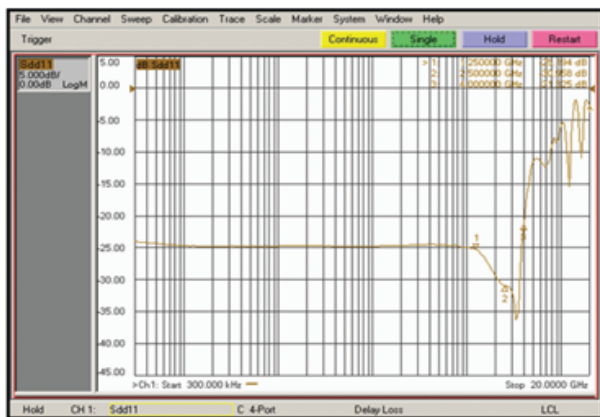

Fig 4. Crosstalk for PI2USB304
6. **Crosstalk** is defined as magnitude of signal that is coupled between the circuits. Crosstalk is usually caused by undesired capacitive, inductive, or conductive coupling from one circuit, part of a circuit, or channel, to another. Higher cross talk will cause signal degradation. Fig 4. plots the cross talk for PI3USB304 (-38dB @ 2.5GHz).